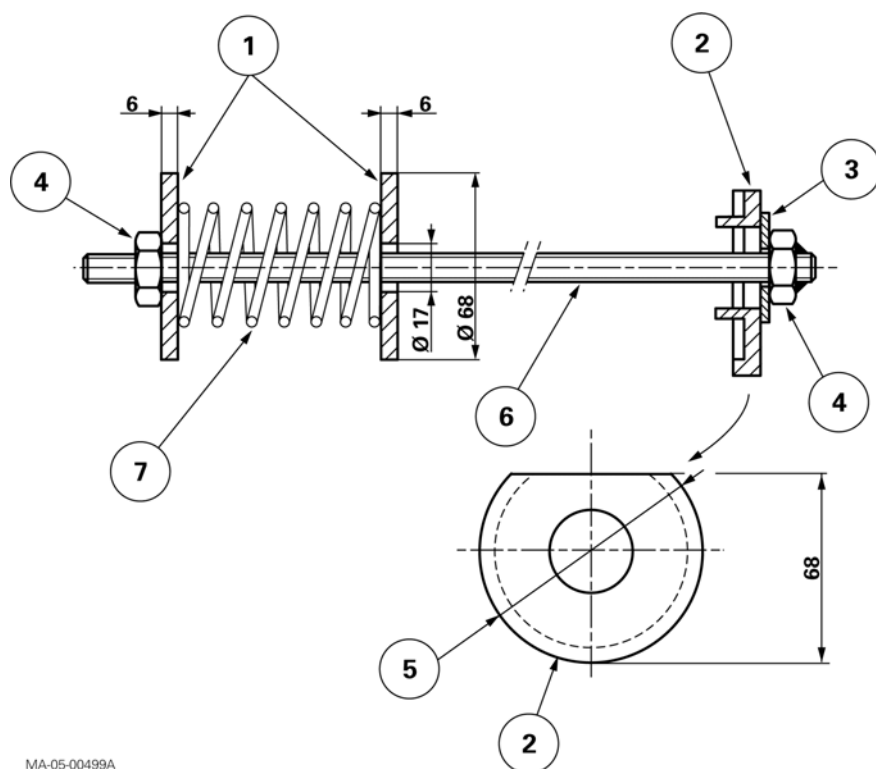

Fig. 8
- **Shaft supporting tool (Fig. 8)**
- (1) MF 1610037M2 washer, locally adapted
- (2) MF 3619200M2 washer, to be machined
- (3) LL 2U washer:
- (4) HM10 nut
- (5) ext. $\varnothing = 79.7 + 0 / -0.2$
- (6) M10 x 150 threaded rod: L = 1150
- (7) Spring: